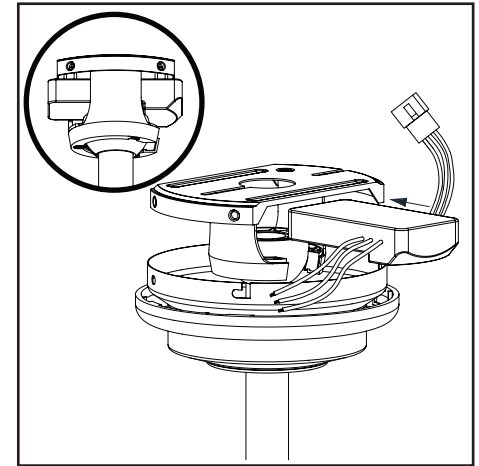

Figure 13
2. Insert the narrow end of the receiver (as shown, flat side toward ceiling) into the slide-on mounting bracket until it rests on top of the ball/downrod assembly. (Figure 13)